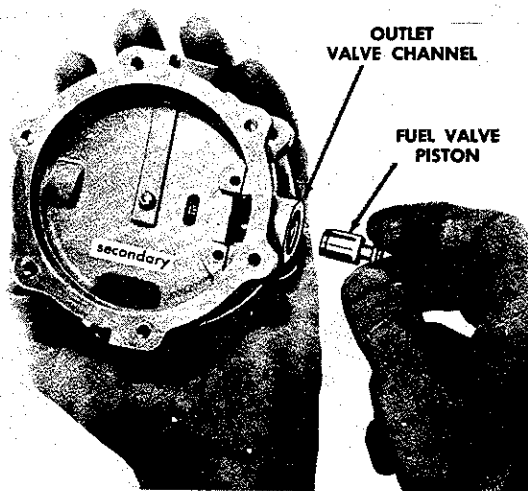

FIGURE 17
5. Insert a valve piston, the end with rubber disc first, in valve channel on operator's right. Figure 17.